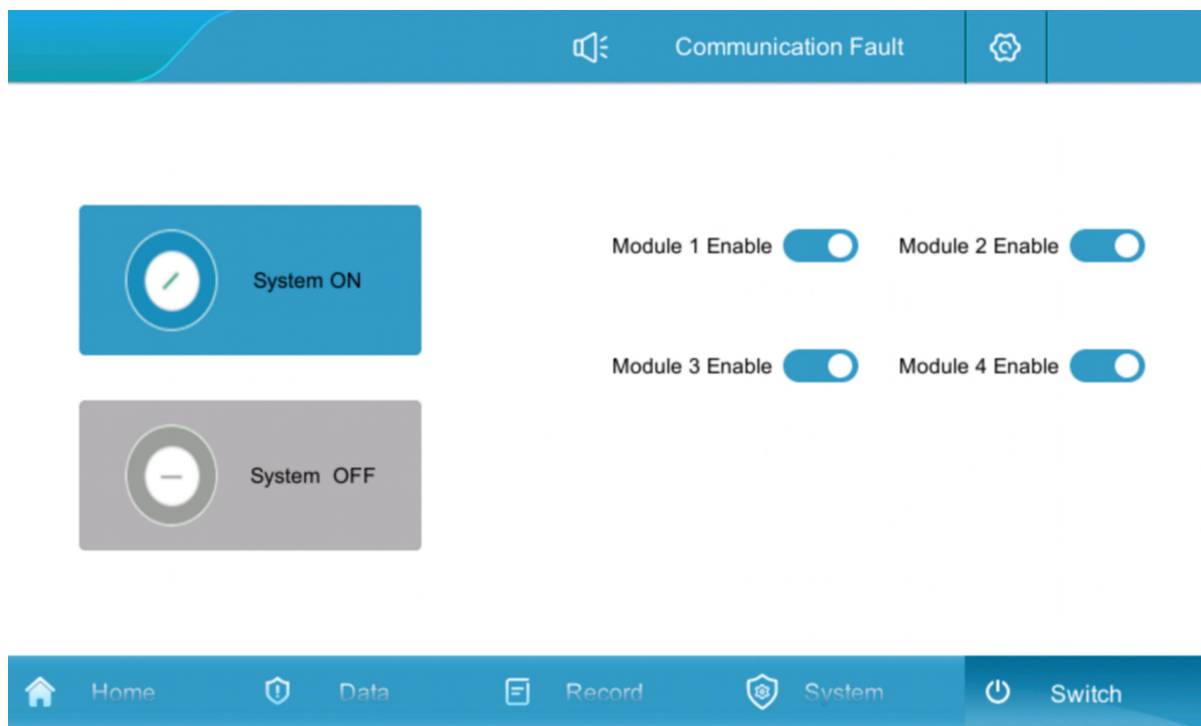

Figure 6.2-2 Power On/Off Interface
6. Converter Shutdown: When the converter is in operation, click "Shutdown" as shown in Figure 6.2-2;